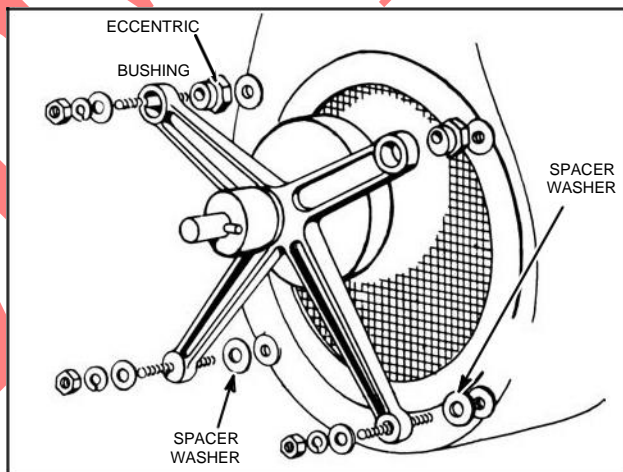

Fig. 583 – STARTER ASSEMBLY
To assemble starter, place two (2) eccentric bushings on upper studs and two (2) plain washers on lower studs. Then place starter bracket gear and shaft assembly and four (4) plain washers and nuts on studs. Press starter gear toward engine until teeth mesh with pinion. Hold it in this position. Turn two (2) eccentric bushings, Fig. 583. until starter gear can be moved back and forth approximately 1/32" without moving pinion or crankshaft. Tighten nuts securely. Oil the crankgear shaft through the oil cup and grease the pinion gear teeth occasionally to reduce wear.